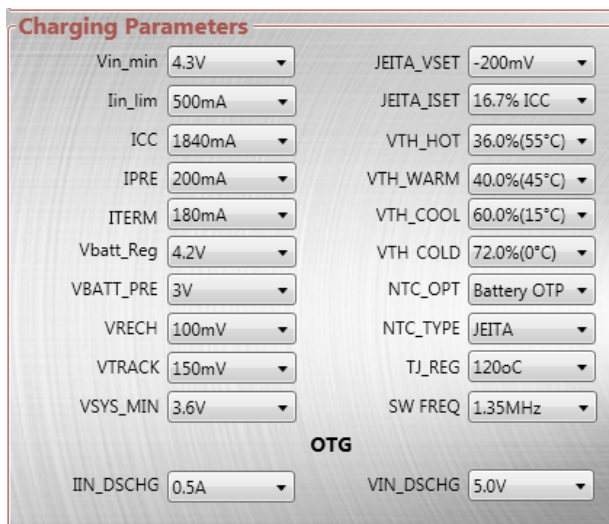

Figure 5: MP2733 GUI Charging Parameters Display
- Set the charging parameters (see Figure 5).